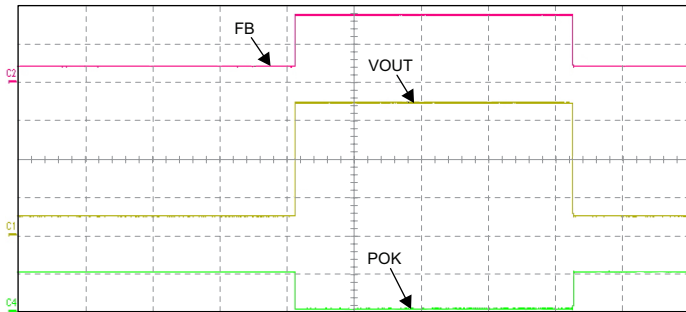

Figure 12b: Test Results when Battery = 36 V is Shorted to V_{OUT}
To provide additional protection when the battery is shorted to the load terminal, a 40 V Schottky diode (D) can be inserted after sensing resistor R_{sen} to block the high voltage entering into IC, and a Zener diode is placed at FB pin, as shown in Figure 12. The test result was shown in Figure 12b when Battery = 36 V was shorted to V_{OUT} .